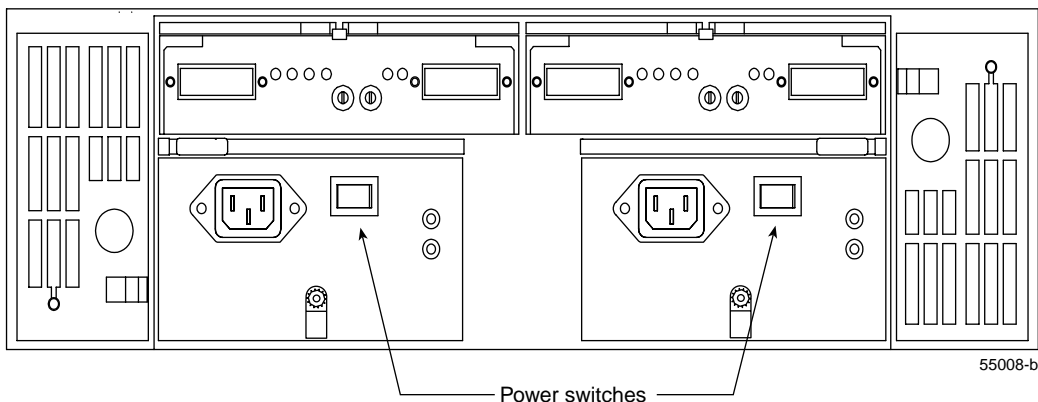

Figure 6-1 Turning the Power On and Off
(see Figure 6-1) or the main circuit breaker, whichever is applicable. You must turn on both power supply canister switches to take advantage of the redundant power supplies.
1. Turn off both power switches (see Figure 6-1).
1. After the emergency situation is over or power is restored to the site, turn off all power switches (see Figure 6-1).
3. Turn on the power to the drive enclosure and the controller enclosure (see Figure 6-1).
4. Turn off both power switches on the rear of the drive enclosure or the main circuit breaker, whichever is applicable (see Figure 6-1).